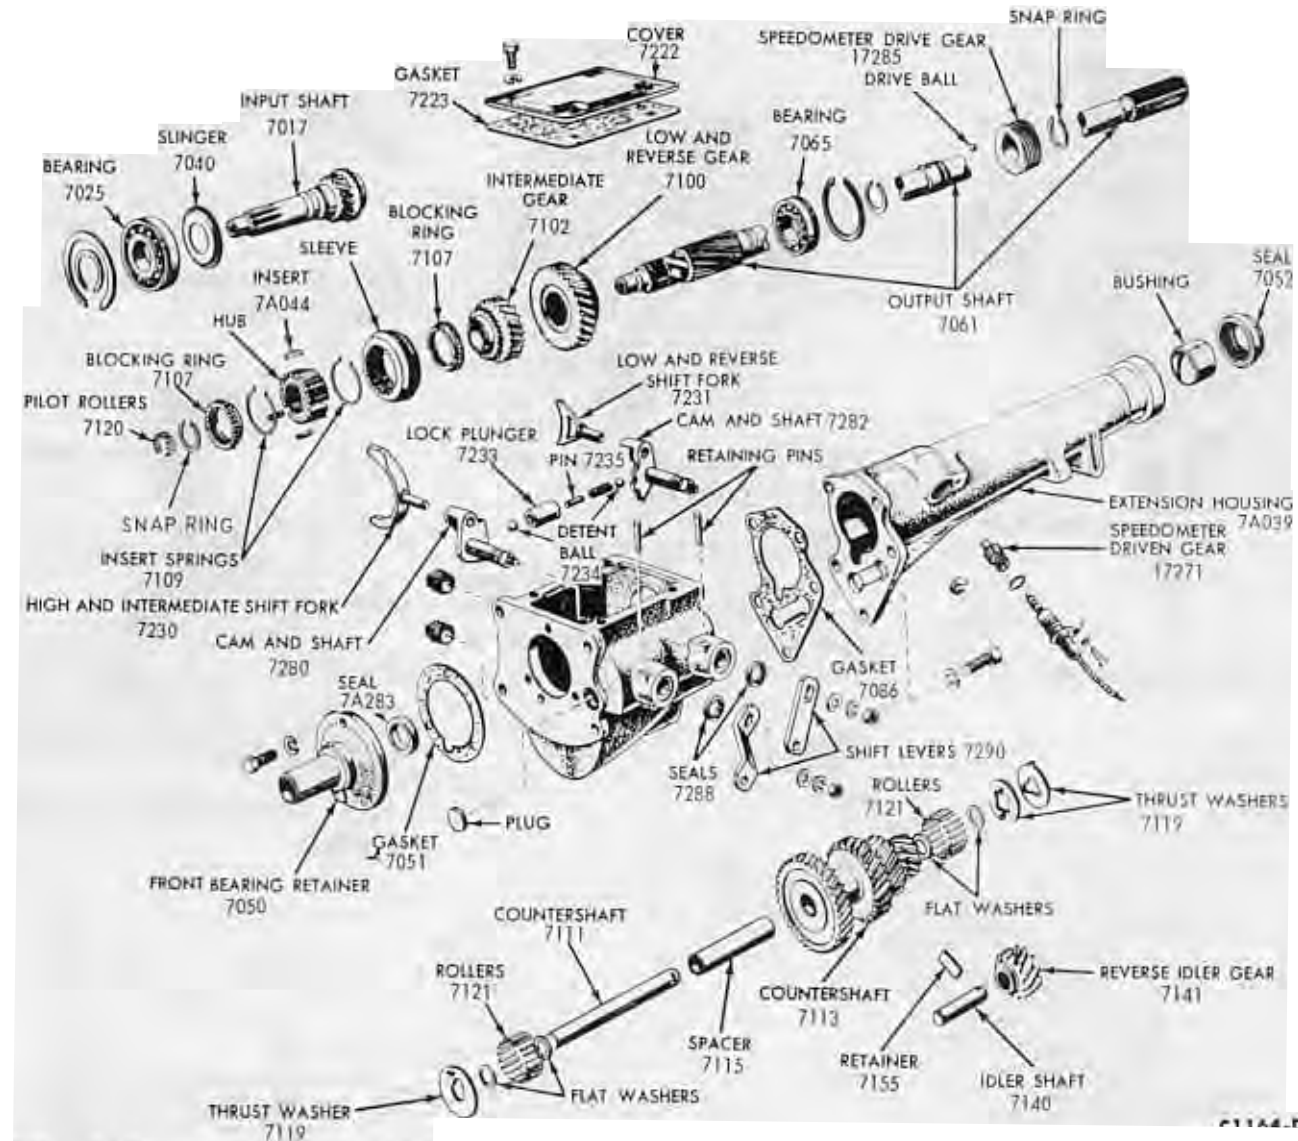

FIG. 4—Transmission Disassembled
3. Remove the extension housing attaching bolts and remove the extension housing and gasket. To prevent the output shaft from following the housing (with the resultant loss of needle bearings), tap the end of the output shaft with a soft-faced hammer while withdrawing the extension housing. See disassembly (Fig. 4).
5. Remove the retainer for the reverse idler shaft and countershaft (Fig. 4).